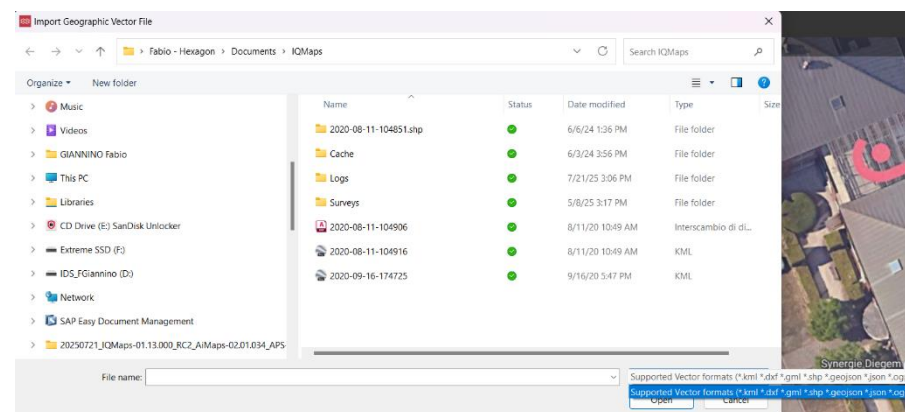

Fig. 42 Import vector layer
3. Press on the  and select the Layer to be added to the project (supported formats are *.kml, *.dxf, *.gml, *.shp, *.geojson, *.json, *.ogpr) Fig. 42,